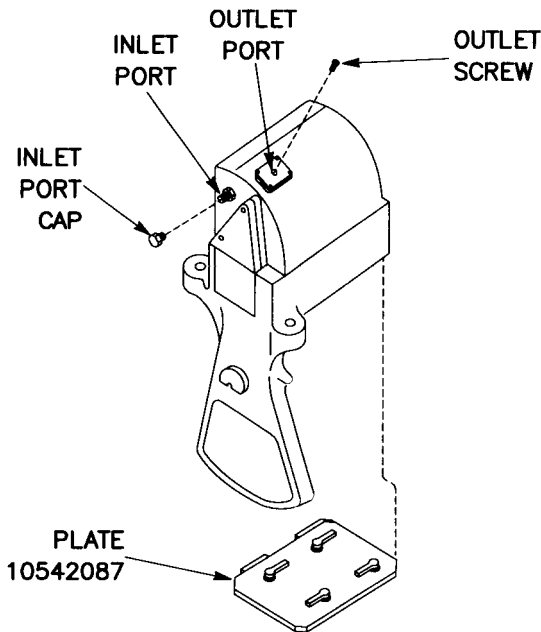

Figure 3-31 M44A Head Assembly
(2) Purging and Charging the Head Assembly (fig. 3-31).